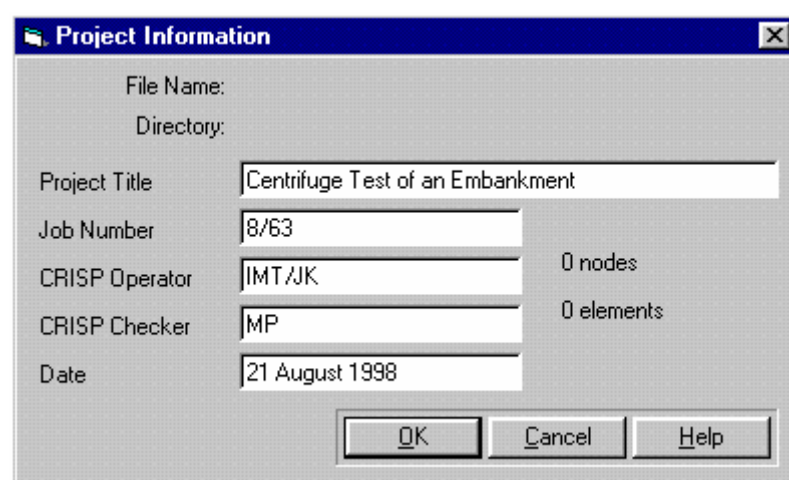

Figure 6-3: Project Information dialogue box
- Step 7** The Project Information dialogue box should now look similar to Figure 6-3. Click on **OK** to return to the Project Setup dialogue box, once you have finished.